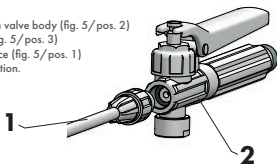

Fig. 5
Make sure that the piston valve body (fig. 5/pos. 2) is fitted with an o-ring (fig. 5/pos. 3) and screw it onto the lance (fig. 5/pos. 1) to achieve a tight connection.